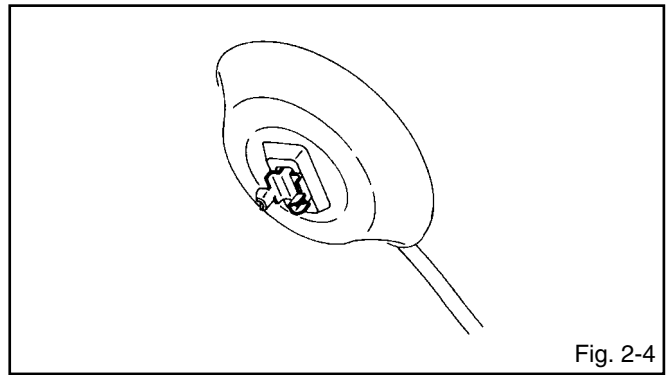

Fig. 2-4
3. Turn over the Rubber Cap. **(Refer to Fig. 2-4.)**